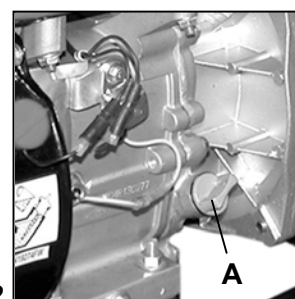

Figure 2
2. Open the Oil Cap (A, Figure 2).